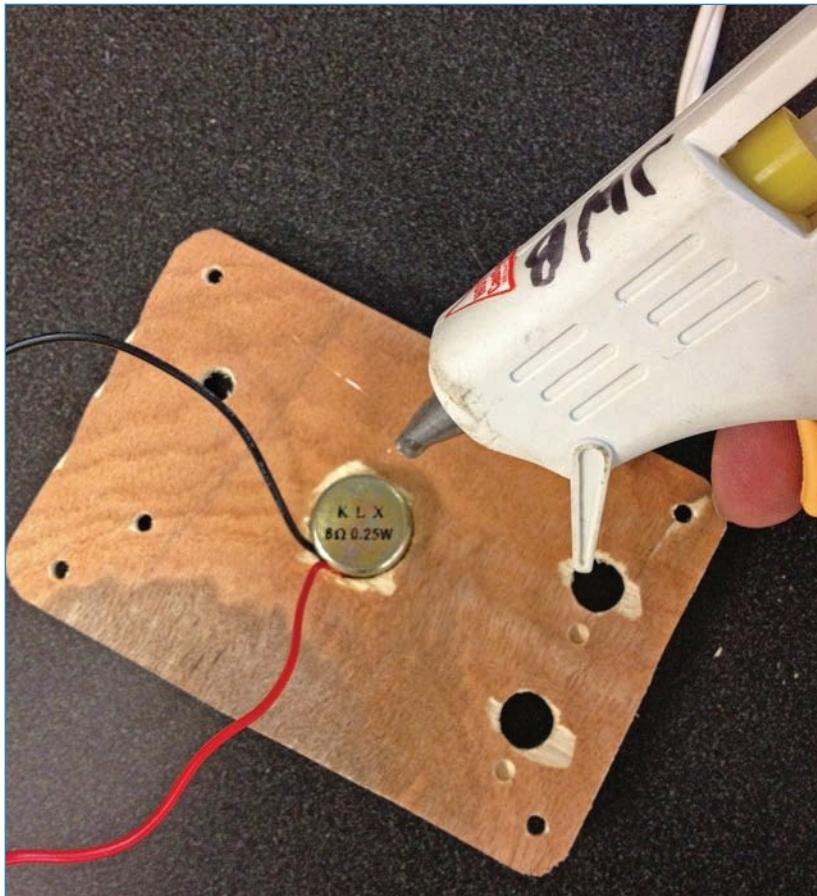

FIGURE 10.14 Hot glue the butt end of the speaker to the top panel.
5. Insert the back end of the speaker into the 3/4" hole and hot glue it in place, as shown in Figure 10.14. Make sure the wires are on the underside of the top panel, so they can reach the Arduino. Note that you might need a bigger speaker hole if you went with a different speaker than I did.